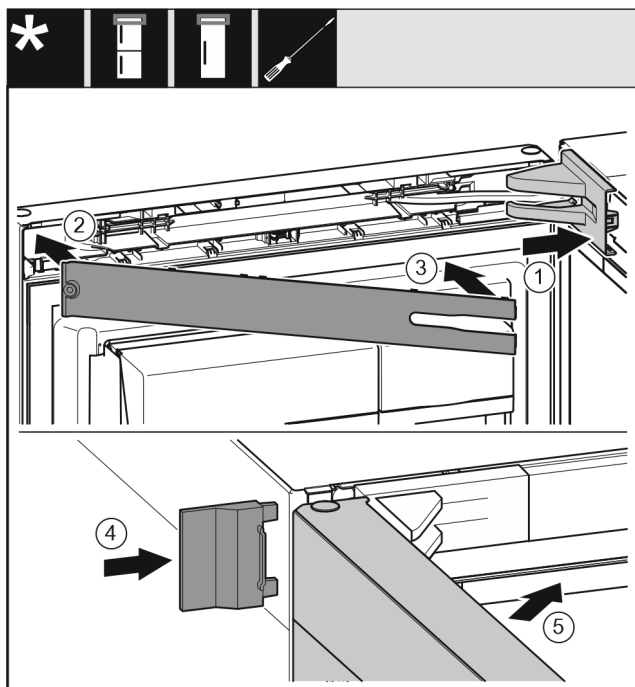

Fig. 53
- ▶ Put the swap bearing block cover Fig. 53 (1) on and engage, push apart carefully if required.
- ▶ Fit the trim Fig. 53 (2).
- ▶ Screen Fig. 53 (3)
- ▶ Push the outer cover Fig. 53 (4) on.
- ▶ Close the upper door Fig. 53 (5).